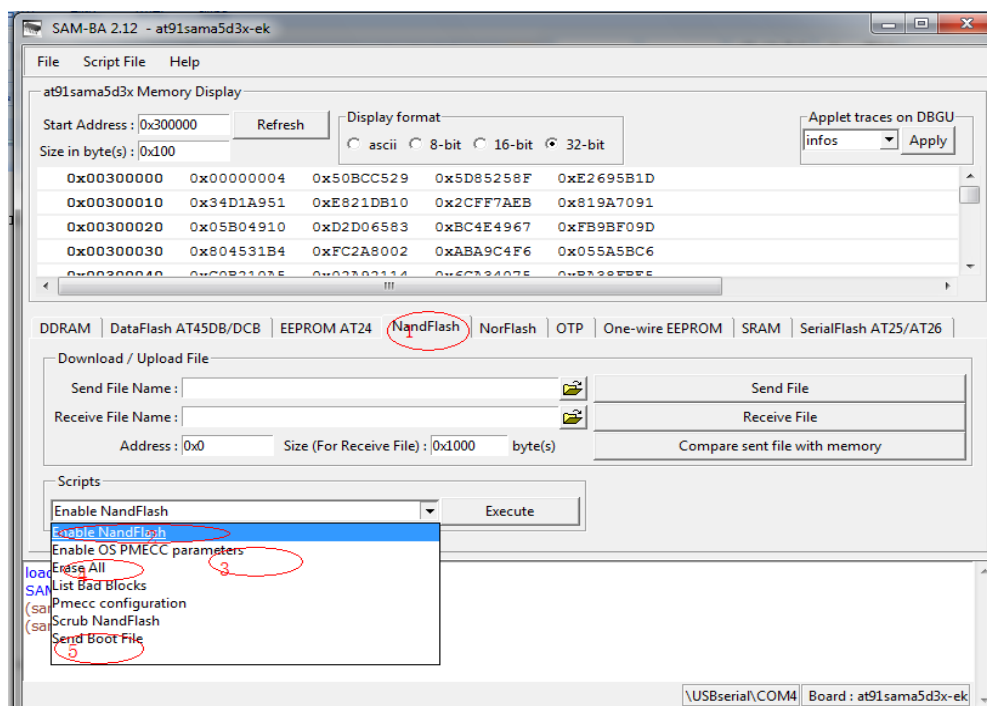

Figure 3-6
(2) Click NandFlash tab and execute Enable NandFlash Erase All, Enable OS PMECC parameters in Scripts tab (select an action and click next to "Execute" execution). When Execute Enable OS PMECC, Pop - up dialog box, click OK to use the default settings, the specific operation is as follows in figure 3-6: